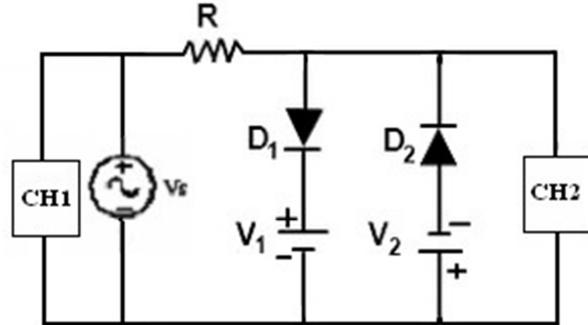

Figure.10
- 5- Switch OFF the Function Generator, and insert two DC power supplies $V_1 = V_2 = 2V$ as shown in Figure 10 (To avoid any problems and short circuits, connect the branch of D_1 in series with V_1 somewhere on the breadboard, connect the other branch of D_2 in series with V_2 in another place, then connect both branches in parallel). Switch On the DC supplies and the Function Generator then repeat step 3.